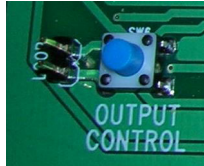

Figure 9. OUTPUT CONTROL Button
4. Press the OUTPUT CONTROL pushbutton (Figure 9) located to the left of the DIP switches.
6. To circumvent the sleep timer and maintain a continuous output state, connect the jumper (LOOP) next to the OUTPUT CONTROL pushbutton (see Figure 9). This will repeatedly send LIN commands. As a result the device will not go to sleep. DIP switch activity is allowed with the loop jumper connected. This allows for real time switching selection of the output drivers.